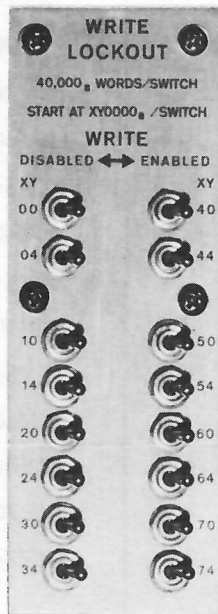

Figure 6-5 RS09 DECdisk Drive,
6.2.1.1 Drive Unit - RS09 DECdisk Drive controls and indicators are illustrated in Figures 6-5 and 6-6 and described in Table 6-4.